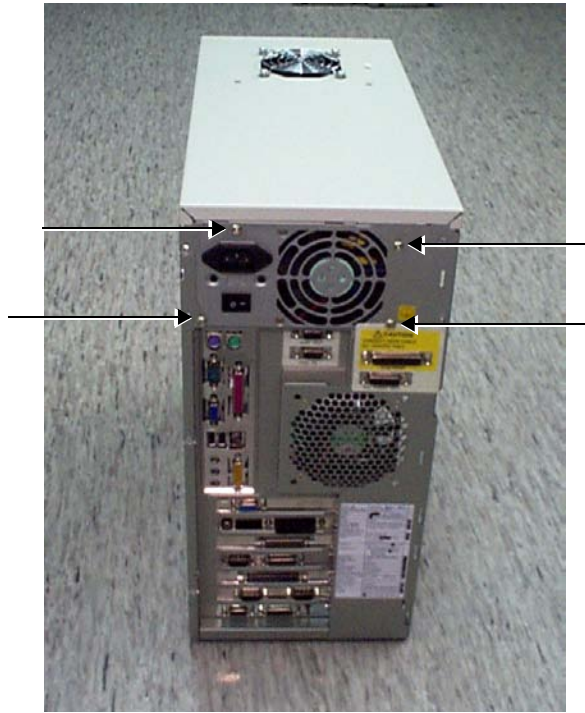

Figure 8-59 BEP2 Rear View
- 8.) From the rear of the BEP2, remove the four screws that fasten the power supply in position on the BEP, as shown in Figure 8-59.
- 16.) At the rear of the BEP2, return and loosely tighten the four screws that fasten the power supply in position on the BEP, as shown in Figure 8-59 on page 8-76.